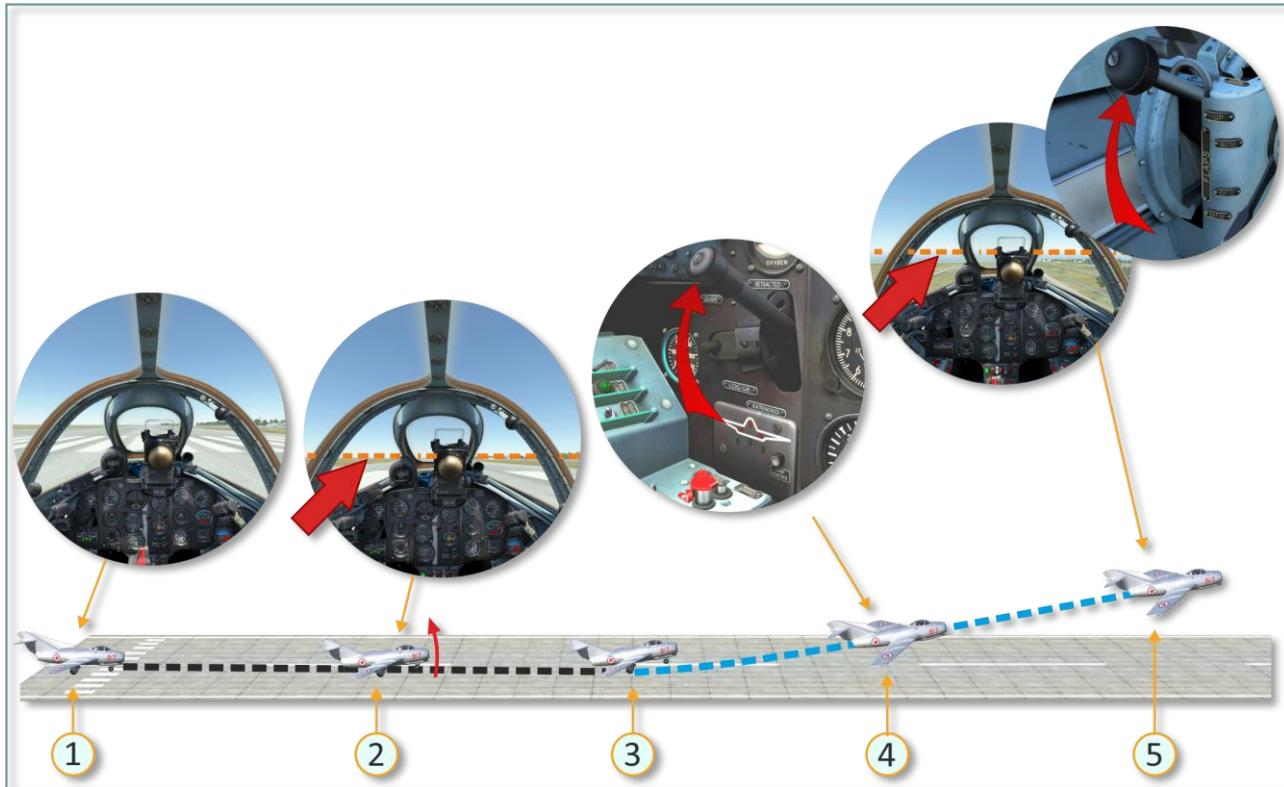

Figure 7.1. Takeoff procedure (orange dash line shows position of the horizon)
2. When the speed reaches 150-160 km/h, lift the nose wheel from the ground by smoothly pulling the stick back (1/4 to 1/3 of maximum stick deflection). The aircraft's nose should be lifted in such a way that the horizon line and canopy are aligned as shown in Figure 7.1, point 2. Keep the airplane in this position until takeoff.
4. At an altitude of 10-15 m and a speed of 350-400 km/h, retract the landing gear (it takes 6-8 seconds). Check successful retraction with the help of signal lamps (they should illuminate red), mechanical pointers (retracted) and pressure in the hydraulic system (has to be between 120-140 kg/cm²). Set the landing gear lever into the neutral position. The latch should be kept opened, Figure 7.1, point 4.
5. Set an IAS of 500 km/h and a vertical speed of 7-8 m/s, simultaneously reducing engine RPM. Nose position relative to the horizon during climb is shown in Figure 7.1, point 5.
- set visible parts of canopy according to Figure 7.1, stage 2 (nose gear lift-off) by very smooth and small-amplitude stick movements and continue acceleration to the required speed;